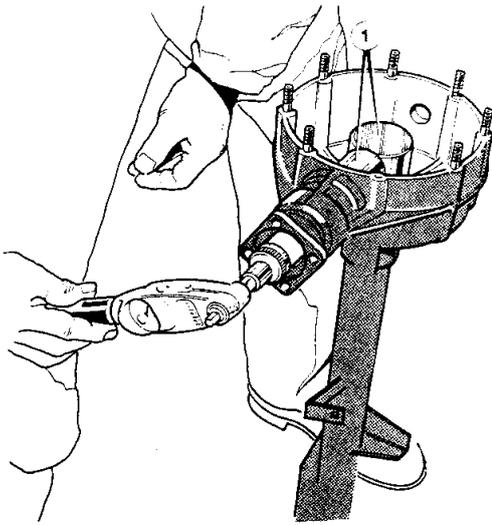
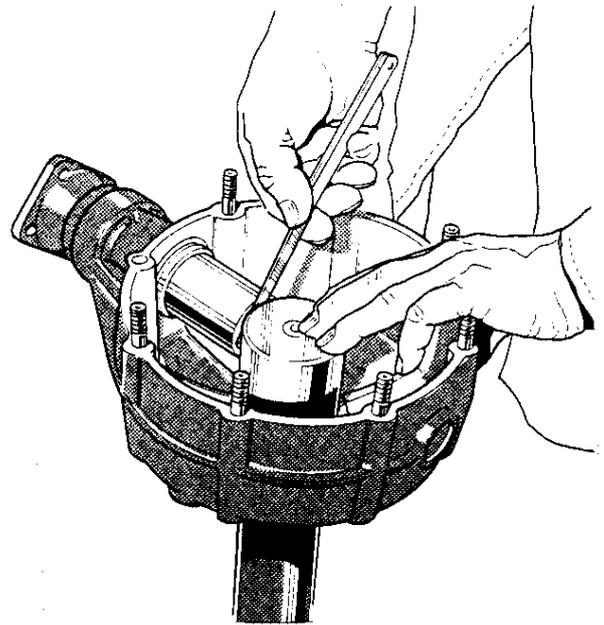

Figure 10 Measuring the torque to turn the pinion using dummy Pinion tool
Figure 11 Determining pinion mounting distance using dummy pinion
4. Place the mandrel, RT 8730 in the differential side bearing bore. With a dial gauge torque wrench, check the torque required to turn the dummy pinion nut (**Figure 10**). This should read 0.115 to 0.150 kg/m (10 to 13 lb/in) torque without the oil seal, 0.150 to 0.184 kg/m (13 to 16 lb/ft) with the oil seal. Ensure that the mandrel is seating correctly and measure with feeler gauges the gap between the outside diameter of the mandrel and the dummy pinion face (**Figure 11**). Any amount in excess of 0.030 in will be the spacers required to bring the pinion to its correct operating distance. take in to account,